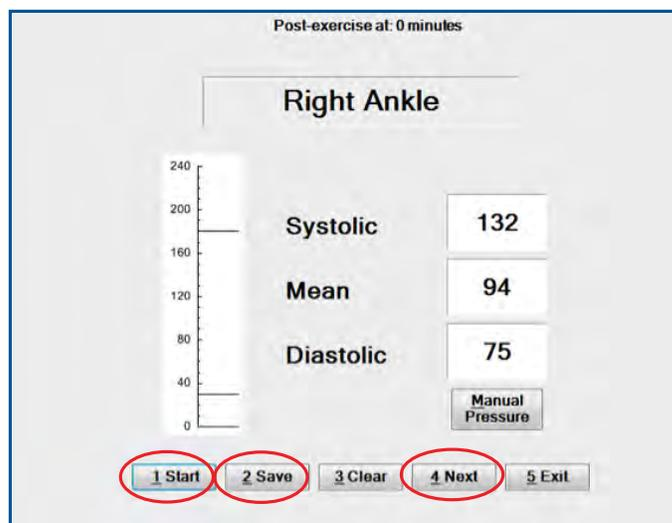

FIGURE 1.34 - Right Ankle - “Start”, “Save” and “Next” Buttons
47. Quickly move the hose to the Right Ankle Cuff and click “Start”, or press 1 (Figure 1.34).
48. After the values display, click “Save”, or press 2 (Figure 1.34).
49. Click “Next”, or press 4 (Figure 1.34).